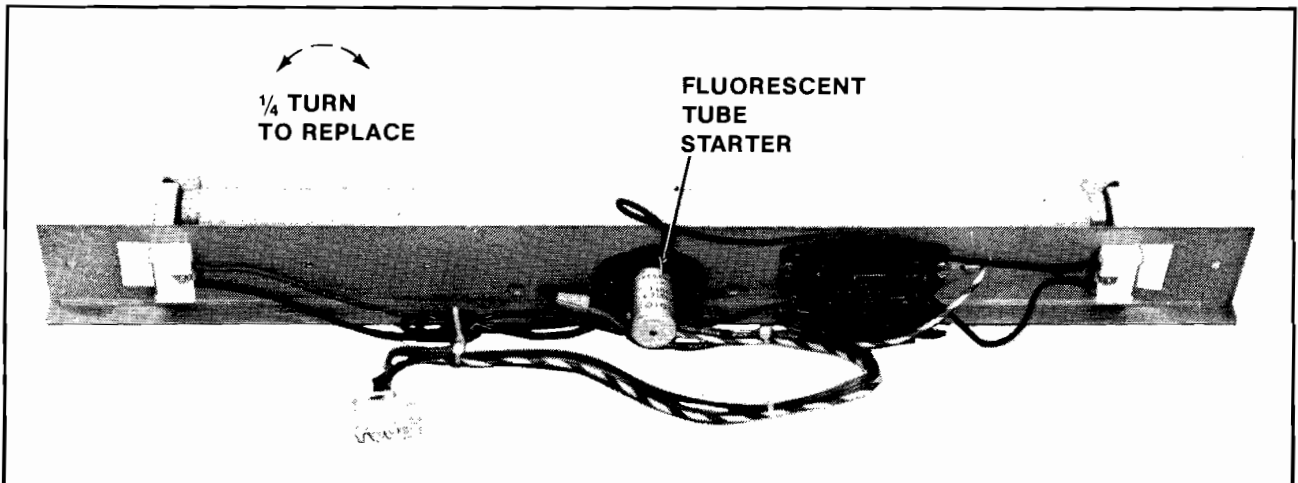
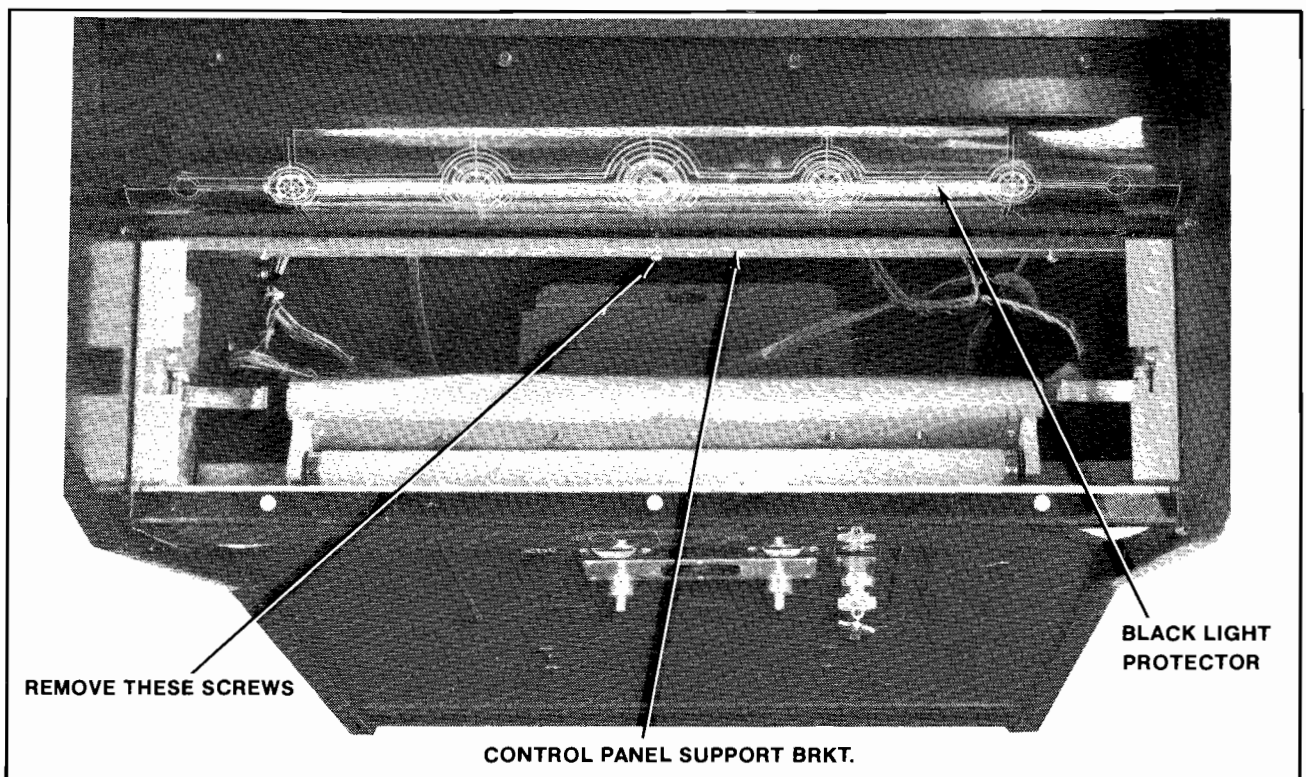

Figure 4-16 Replacing Fluorescent Tube Starter — Upright
Figure 4-19 Servicing Control Panel Black Light — Upright
**WARNING: If you drop a fluorescent tube and it breaks, IT WILL IMplode! Shattered glass can fly six (6) feet or more from the implosion. Use care when replacing any fluorescent tube.**
- Replacing the fluorescent tube starter. See Figure 4-16.
2. Remove the control panel as described previously. This exposes the bottom row of screws which secure the control panel support bracket and the black light protector in place. See Figure 4-19.
4. Replacing the black light tube starter. See Figure 4-16.
3. Replacing the fluorescent tube starter. See Figure 4-16.